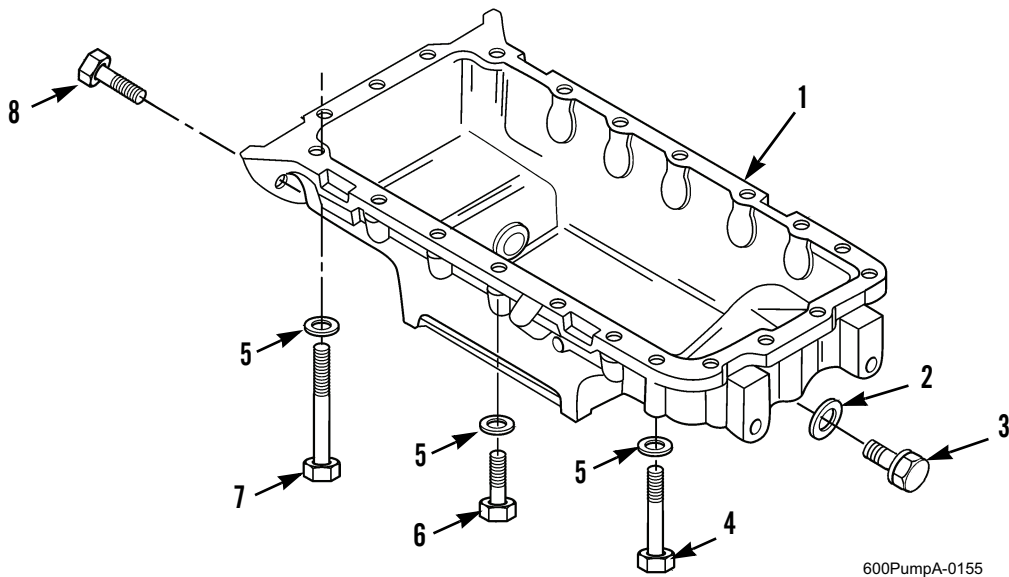

Figure 3. Engine Oil Pan.
1. Apply silicone RTV compound to oil pan (Figure 3, Item 1).
2. Install oil pan (Figure 3, Item 1) on engine block with four bolts (Figure 3, Item 8), 21 washers (Figure 3, Item 5), two bolts (Figure 3, Item 4), three bolts (Figure 3, Item 7), and 16 bolts (Figure 3, Item 6). Tighten bolts to 16 to 21 lb-ft (22 to 28 Nm).
4. Install new sealing ring (Figure 3, Item 2) and drain plug (Figure 3, Item 3) to front or rear of oil pan (Figure 3, Item 1).